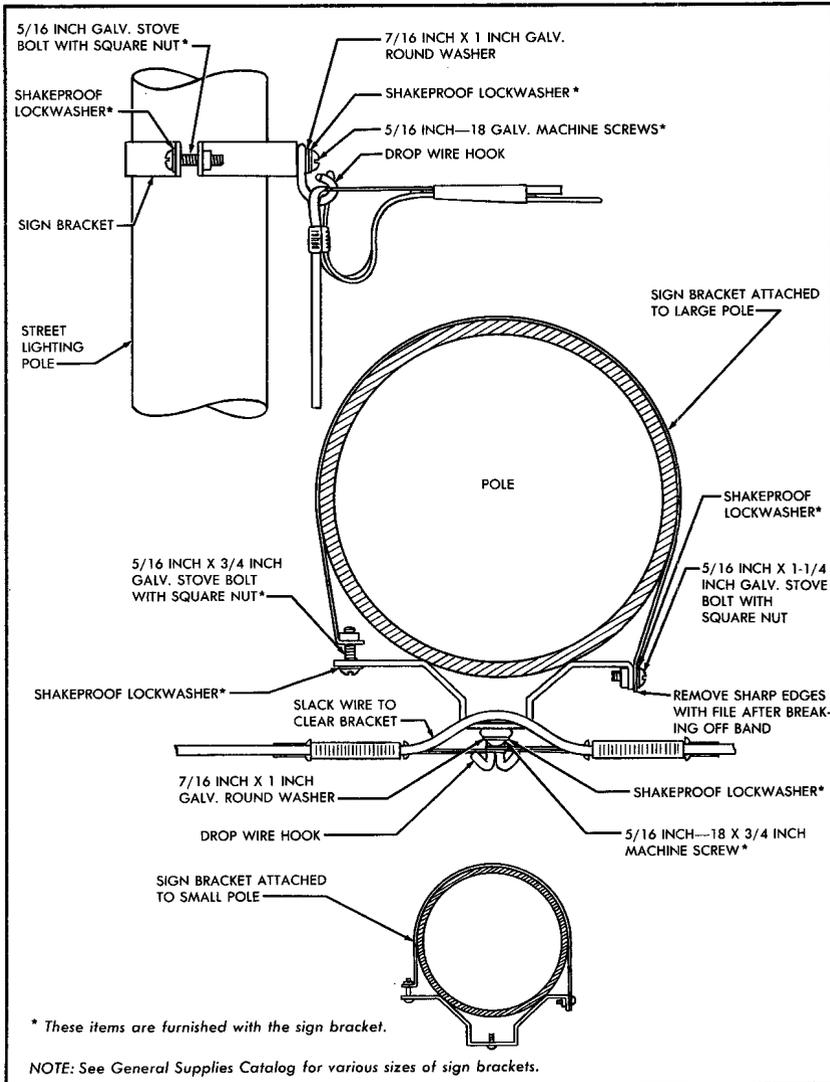

FIGURE 9. Metal Pole Attachment
10.01 Avoid attachment to metal poles whenever possible. When it is necessary to attach to metal poles, approval shall be obtained from the supervisor. Use a sign bracket, depending on the size of the pole, and attach as shown in Figure 9. For the bracket sizes and ordering information, refer to the Continental Telephone System General Supplies Catalog under "BRACKETS, SIGNS".